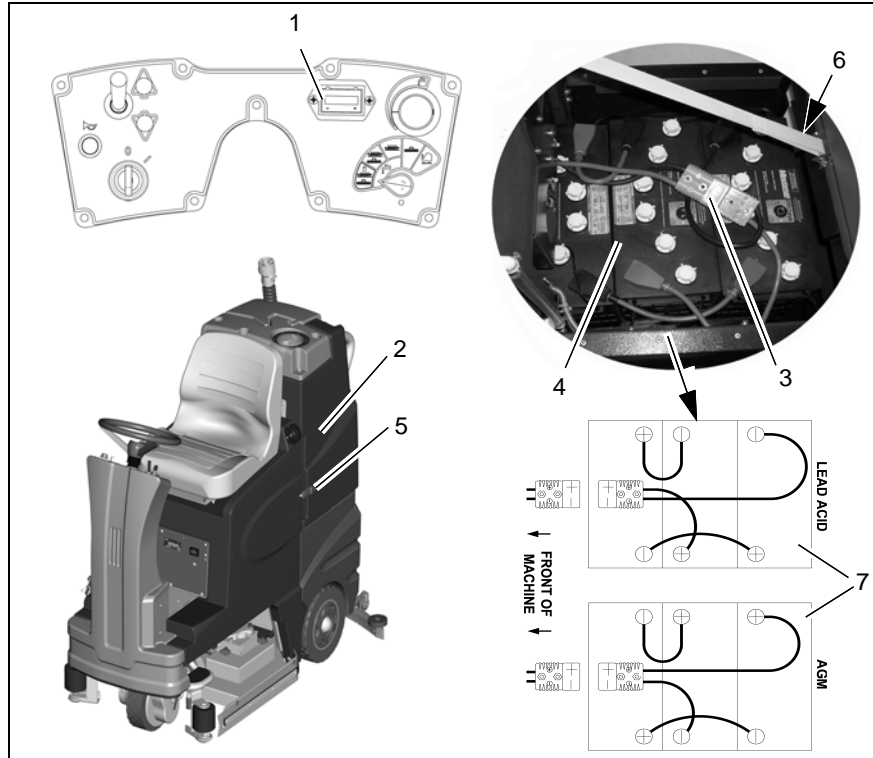

Fig.14
Connect the charger to the battery connector (Fig. 14/3) Charging batteries is recommended if at least one bar of the battery gauge has extinguished after operation of the machine. Observe the operating instructions of the charger as well as the operating instructions of the battery manufacturer. In case it is intended to change the type of battery the charger has to be adjusted only by Minuteman contract workshops.
3. Open empty recovery tank (Fig. 14/2) and secure by strap (Fig. 14/6).
4. Disconnect battery connector (Fig. 14/3).
2. Open empty recovery tank (Fig. 14/2) and secure by strap (Fig. 14/6).
4. Connect battery poles and enclosed connecting cables according to battery connection/layout (Fig. 14/7). Tighten and grease poles.